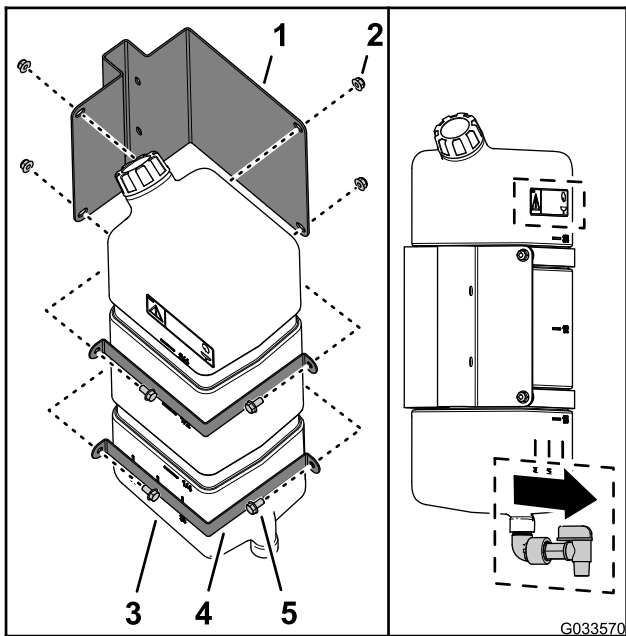

Figure 43
1. Assemble the freshwater tank to the freshwater-tank mount with the 2 mount straps, 4 flange-head bolt (5/16 x 5/8 inch), and 4 flange locknuts (5/16 inch) as shown in Figure 43.